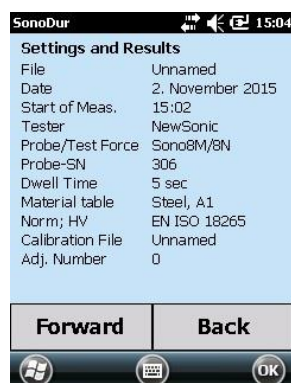
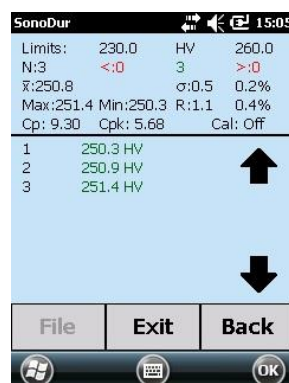
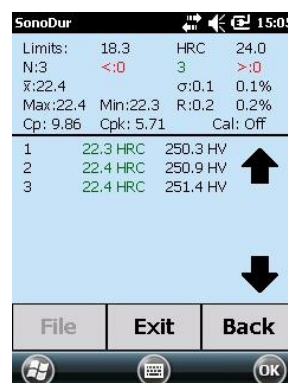

Figure 7.28
Figure 7.29
Figure 7.30
All relevant information is displayed at a glance (Figure 7.28) and via "Forward" button, one receives information on the measurement results (Figure 7.29 and Figure 7.30). Figure 7.30 shows the same result as Figure 7.29 with the only difference, that the original measurement values (HV) have been converted to HRC, whereas the results of the original scale are always carried along for information purpose. The relevant tolerance thresholds will be automatically converted from the original scale to the re-evaluated hardness scale along with the summarized results for the average value, overline X, mean error of individual measurement  $\sigma$ , range R, minimum and maximum.